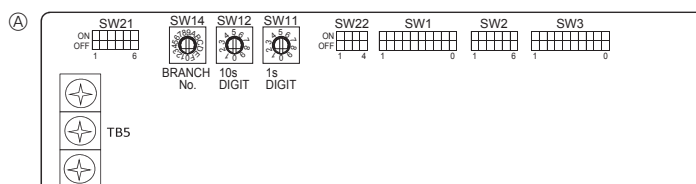

Fig. 5-6
③ Wireless remote controller (When installing wireless signal receiver)
④ Terminal block for indoor transmission cable
⑤ Terminal block for outdoor transmission cable (M1(A), M2(B), ④(S))
⑥ Remote controller
⑦ wireless signal receiver
⑧ wireless remote controller
5.5. Setting addresses (Fig. 5-6)
5.6. Switch setting for high ceiling or at the time of changing the number of air outlets (Fig. 5-6)
5.7. Sensing room temperature with the built-in sensor in a remote controller (Fig. 5-6)